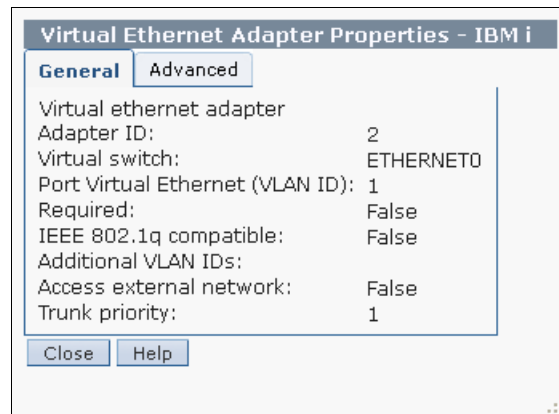

Figure 8-12 HMC Virtual Ethernet Adapter Properties panel
6. Selecting the IBM i client virtual Ethernet adapter and selecting **Actions** → **Properties** shows, in the example, that the IBM i client virtual Ethernet adapter in slot 2 is on VLAN1, as shown in Figure 8-12.